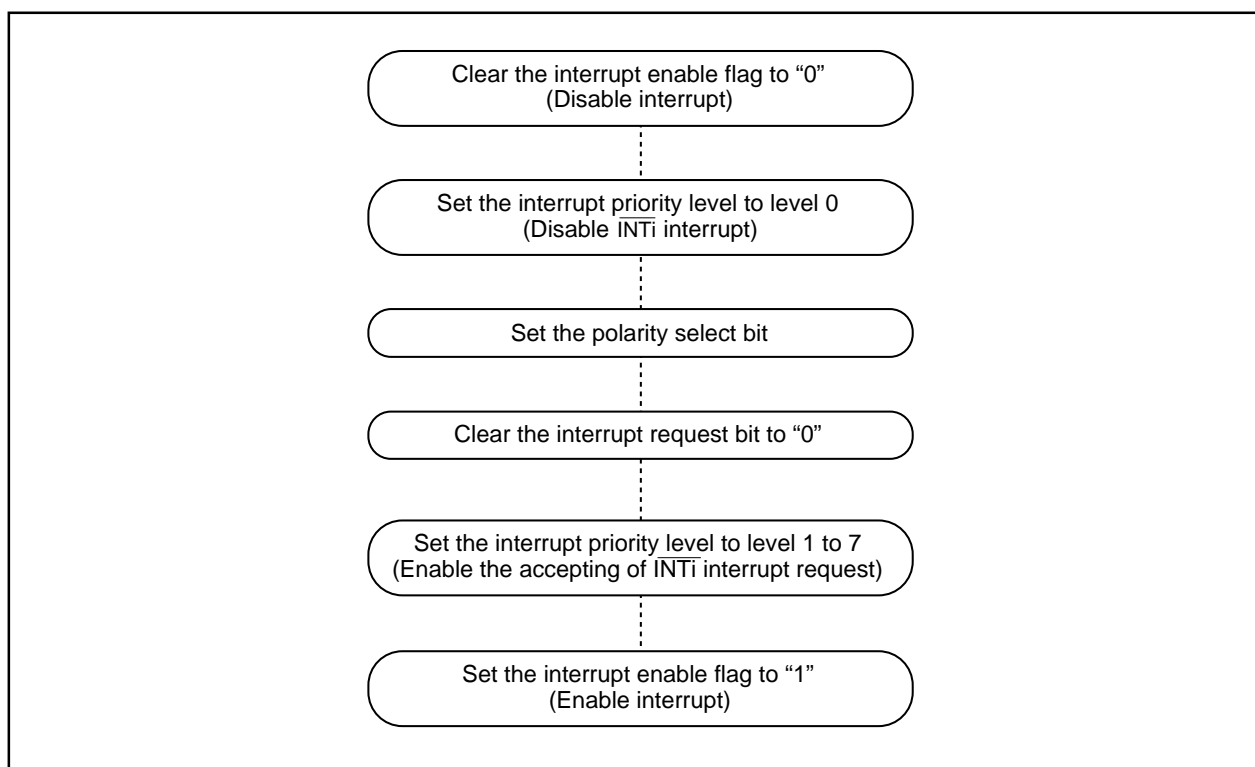

Figure 4.7.1. Switching condition of  $\overline{\text{INT}}$  interrupt request
- When the polarity of the  $\overline{\text{INT}}_0$  to  $\overline{\text{INT}}_5$  pins is changed, the interrupt request bit is sometimes set to "1". After changing the polarity, set the interrupt request bit to "0". Figure 4.7.1 shows the procedure for changing the  $\overline{\text{INT}}$  interrupt generate factor.